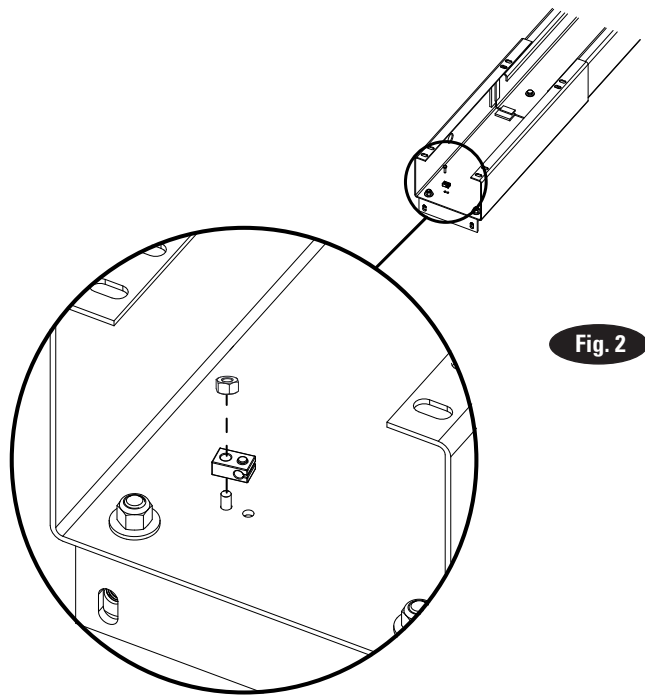

Fig. 2
2. Latch Cable Guides: Install the latch cable conduit guide brackets to column extensions with (1) 1/4"-20NC x 1" HHCS and 1/4"-20NC Flanged Locknuts, HHCS should go through hole nearest the edge as shown, Fig. 2.